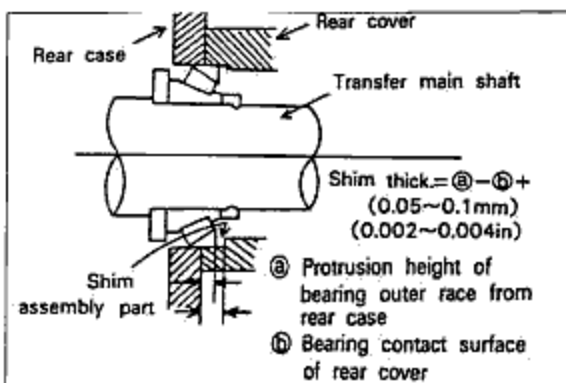

Fig. 7-44
- When assembling the rear cover, adjust with shim. Refer to the figure 7-44.